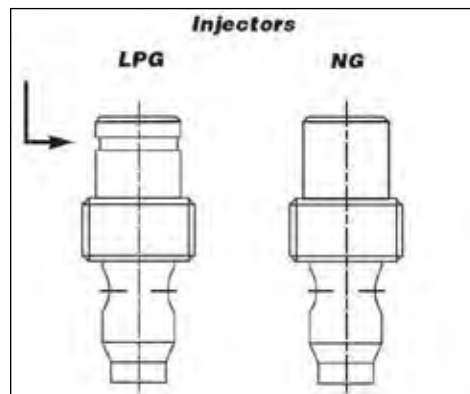

Figure 53: Identifying the Orifice.
7. Ensure that the pilot orifice you are about to install is the correct orifice. LP orifices have a groove cut around the top of the orifice. See Figure 53 for help to identify these parts. The orifice size is stamped into the orifice. The correct orifice sizes for the DV48 are: